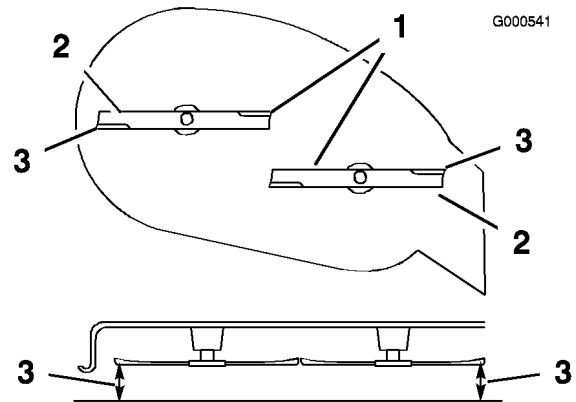

Figure 40
5. Carefully rotate the blade(s) side to side (Figure 40). Measure between the outside cutting edges and the flat surface (Figure 40). If both measurements are not within 3/16 inch (5 mm), an adjustment is required; continue with this procedure.